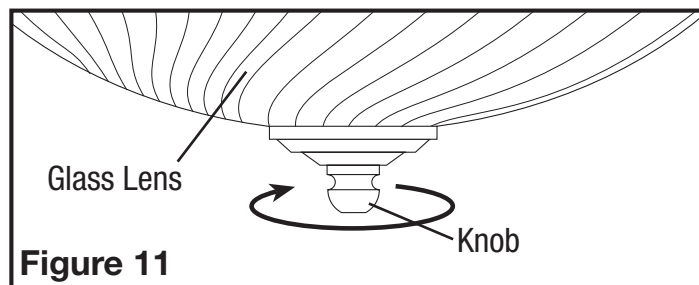

Figure 11
2. Remove glass light lens from grill by unscrewing knob at the top of lens (**Figure 11**).
3. **Changing the Light Bulb:** Disconnect power to the unit. Remove glass light lens from grill by unscrewing knob at the top of lens (**Figure 11**). Replace light bulb(s) with 60 watt maximum, type A19 medium base incandescent bulb(s).